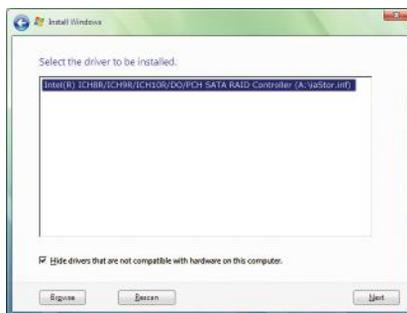

Figure 6
When a screen as shown in Figure 6 appears, select **Intel(R) ICH8R/ICH9R/ICH10R/DO/5 Series/3400 Series SATA RAID Controller (A\_Va)stor.inf** and click **Next**.